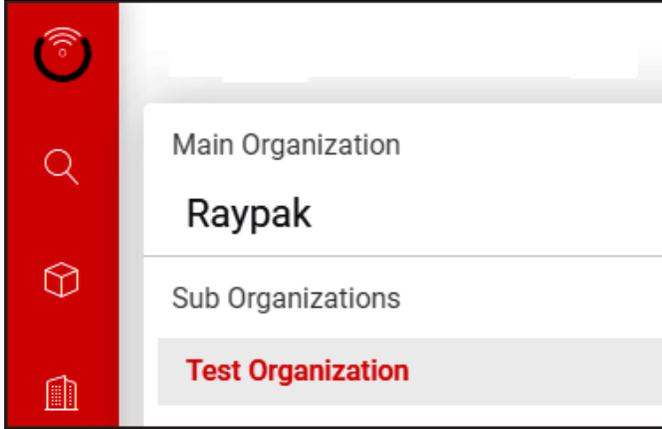

Figure 46. Test Organization
- Select the recently created Organization “Test Organization”, see **Figure 46**).